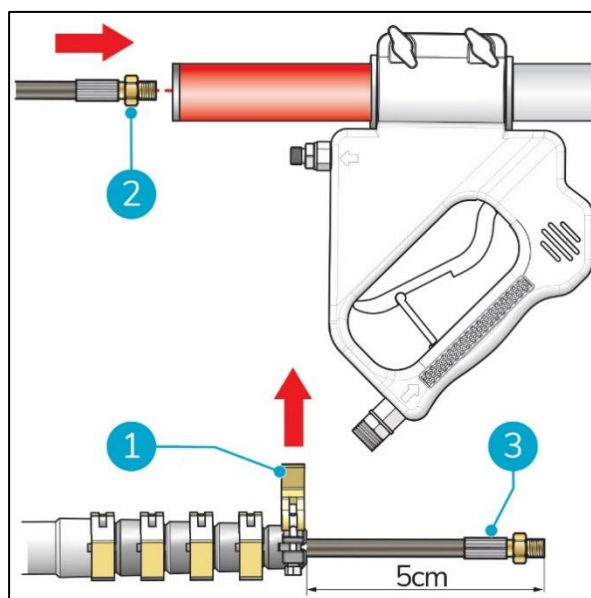

Figure 9
1. Unlock the yellow clamp of the smallest carbon tube (Figure 9, pos 1).
2. Push the end of the hose without rubber cover (Figure 9, pos 2) through the carbon tube until it appears at the other end of the carbon tube.
3. Push the hose out approximately 5 cm for easy assembly (Figure 9, pos 3).